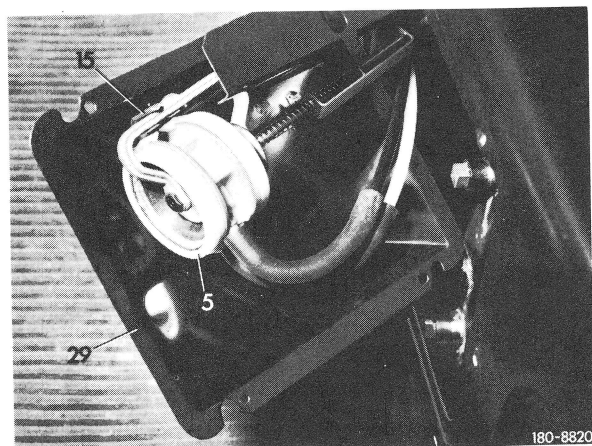

Fig. 5
12 Attach holding spring (15) to vacuum element (5) and screw with oval head screws to lefthand cover rear center piece (29) (Fig. 5).